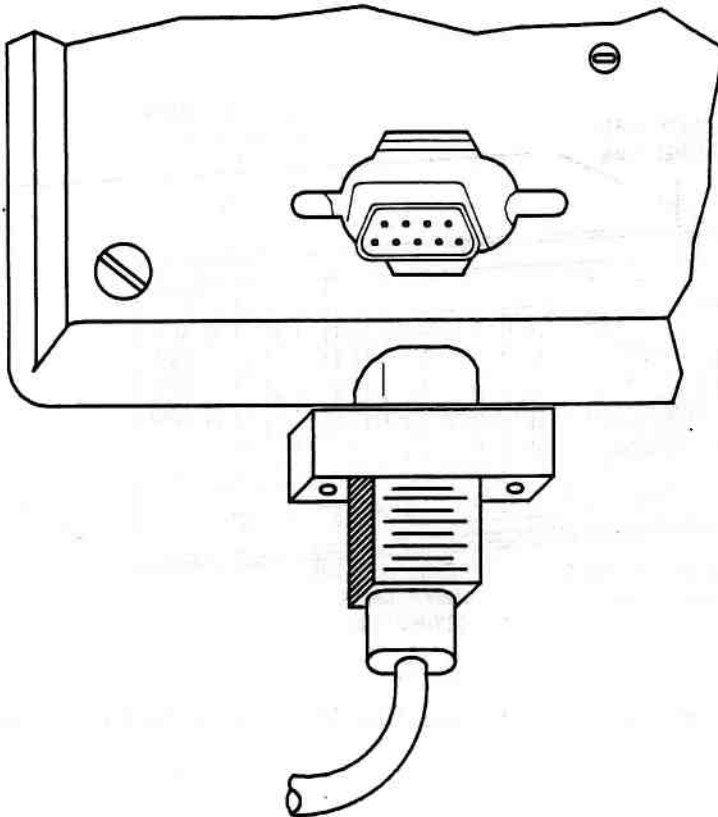

Figure 3-58. Connecting the Keyboard to the Rear Panel
5. Secure the Keyboard cable to the Keyboard Connector on the rear panel (Figure 3-58).